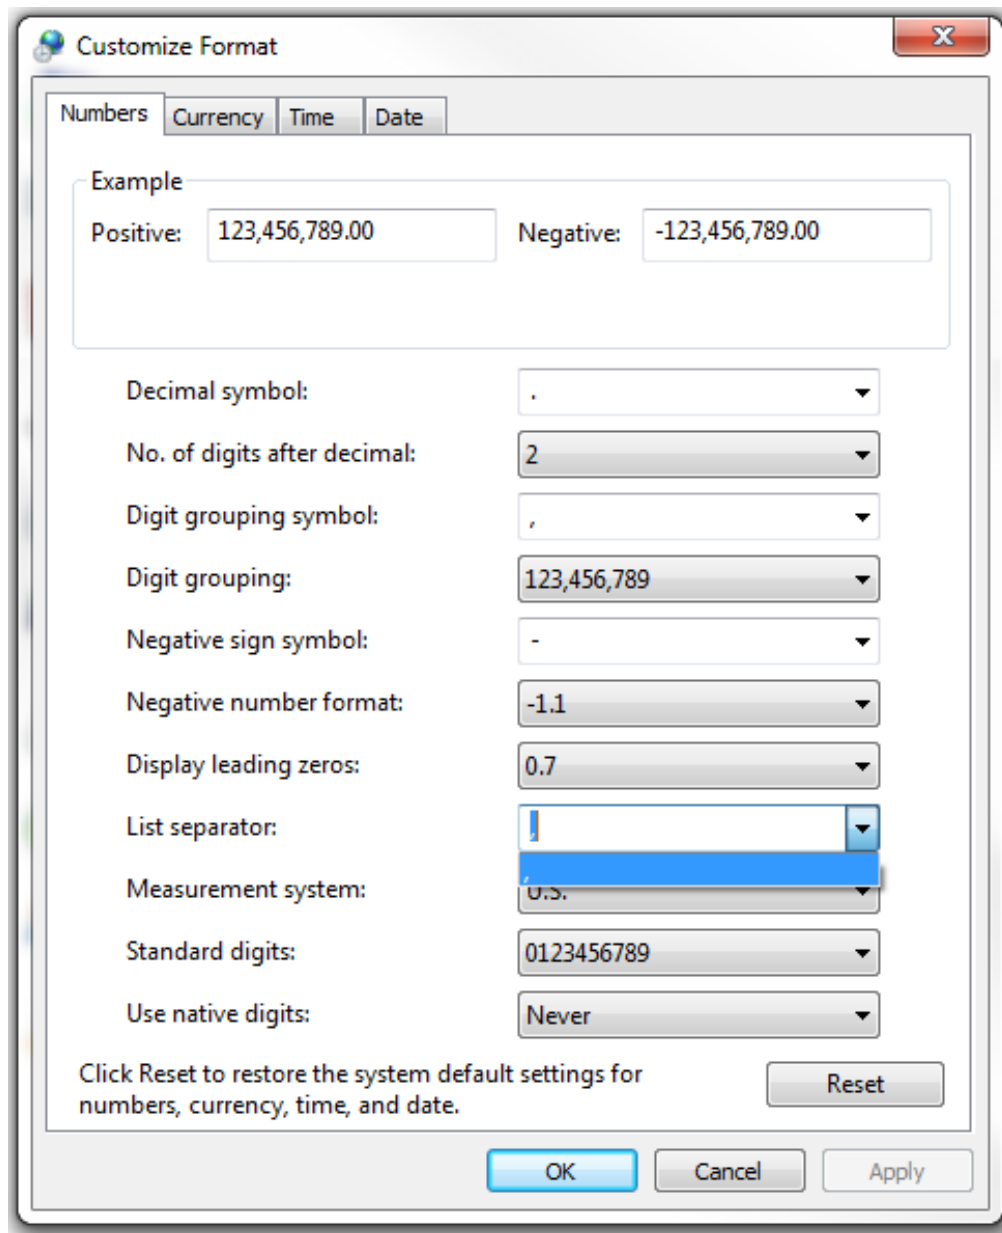

Figure 255: Customize Format Window
- In the Region and Language window, click on the Additional Settings button. The Customize Format window displays (shown in Figure 255).